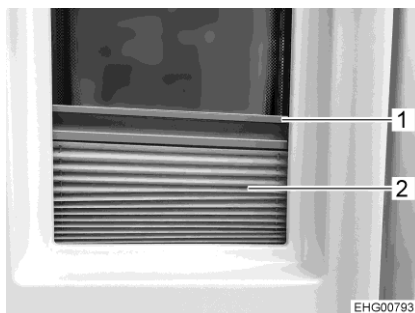

Fig. 59 Roman shade
- Closing:** ■ Grip the Roman shade (Fig. 59,2) in the middle of the holding bar (Fig. 59,1), pull it upwards and then release it at the desired height. The Roman shade will stay at this height.